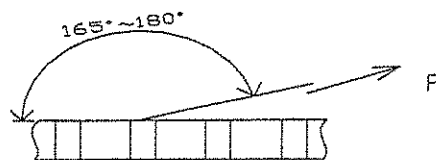

Fig 2
Fix the end of the tape with an adhesive tape as shown in (Fig.2) and stick a slip.
(2) Packaging of outer carton (Fig. 2)